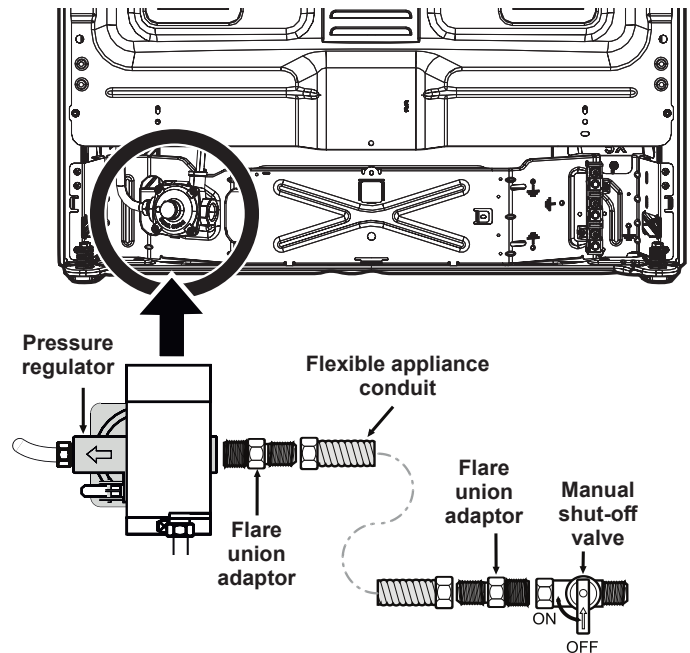

Fig. 8 - gas supply connections
- Install an external manual gas shut-off valve to gas supply line in an accessible location outside of range. Be sure you know where and how to shut off the gas supply to the range (See Fig. 8).
- Install 1/2" flare union adapter to gas pressure regulator using no more than 15ft./lbs. of torque (Refer to Fig. 8).
- d. Install flare union adaptor to external manual shut-off valve (See Fig. 8).
- e. Attach flexible appliance conduit to flare union adaptor on shut-off valve (See Fig. 8).